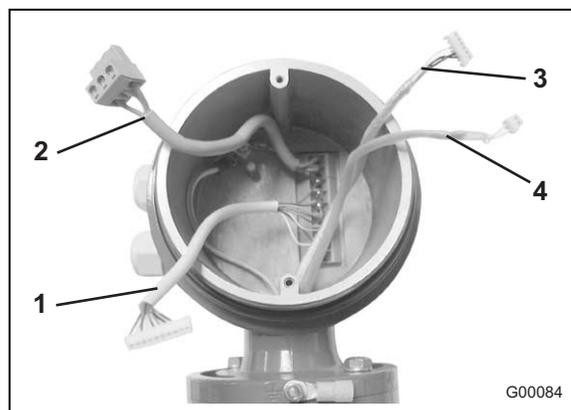

Fig. 59
Description	Order number for cable set (see item 1 in Fig. 59)